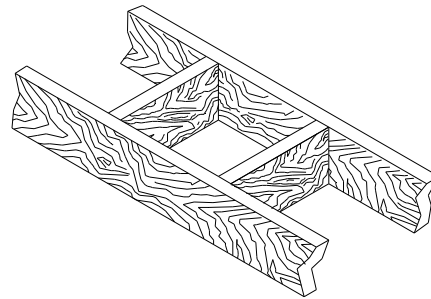

Figure 13
11. Cut and frame square holes in all floors and the roof to provide a 2" (50 mm) clearance between the chimney and any combustible materials. Do not fill this 2" (50 mm) space with any material (see Fig 13).
Cut and frame the holes in the ceiling, floor and roof where the chimney will pass (see Figure 13). Use a plumb bob to line up the center of the holes. The hole sizes are indicated in Table 2 for the floor and ceiling holes and Table 3 (page 20) for the roof holes.